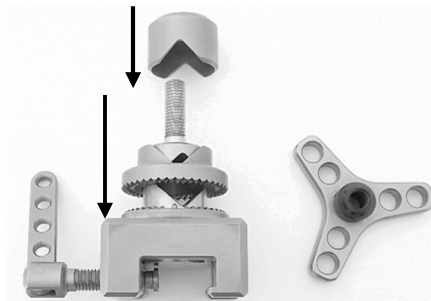

Fig. 3
As shown in Figure 3, place the lower part of the clamping jaw (3) on the base (4), then insert the upper part of the clamping jaw (2) over the thread of the base (4).